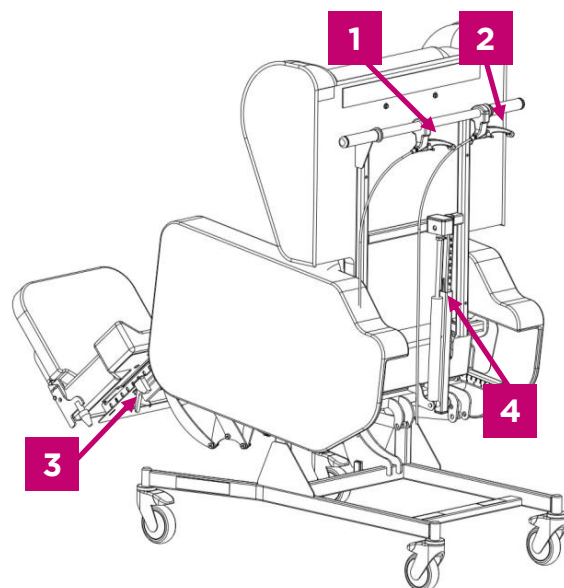

FIGURE 26 – Overview of controls
1. **Backrest** – The backrest can be adjusted between 90 degrees and 130 degrees from the seat angle; see page 5 for a diagram of this. The backrest lever (Fig 26, Item 1) is used to adjust this angle. The backrest is also fitted with a lockout slide (Fig 26, Item 4.) that can be used to restrict the use of the backrest angle adjustment.
2. **Tilt-in-Space** – The tilt-in-space position can adjust the seat angle from 7 degrees to 37 degrees from the horizontal position; see page 5 for a diagram of this. The Tilt-in-space lever (Fig 26, Item 2) is used to adjust this angle.
4. **Legrest** – The legrest can be adjusted between 75 degrees and 160 degrees; see page 5 for a diagram of this. The Legrest lever (Fig 26, Item 3) can be used to adjust this angle.
4. Pull the locking catch on the backrest lever, then pull the main lever (Fig 26, Item 1). Move the backrest to the desired measurement. The backrest angle measurement can be read off the scale at the top of the backrest adjustment slide (Fig 27, Item 3).
2. Pull and hold the tilt-in-space lever (Fig 26, Item 2) and move the chair to the desired tilt-in-space angle.
6. Pull and hold the tilt-in-space lever (Fig 26, Item 2) and move the chair forward to the forward tilt position.
2. Locate the legrest adjustment lever (Fig 26, Item 3).